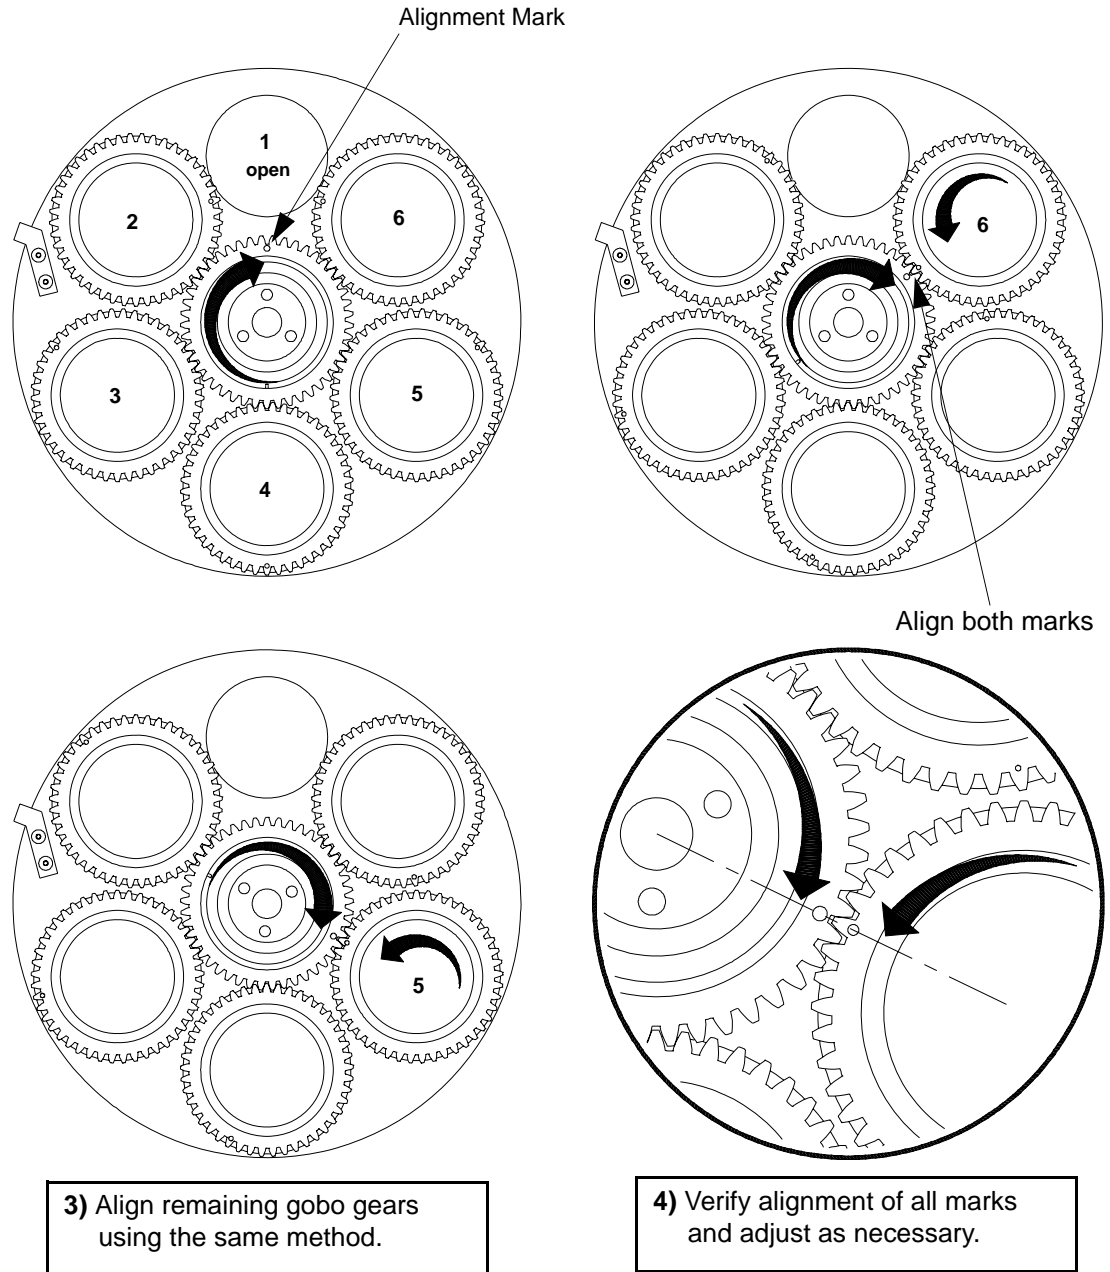

Figure 2-13: Aligning Gobo Wheel Gears
- Step 1. Place center (sun) gear at starting point so that alignment mark is directly facing Position 1 (open) as shown in **Figure 2-13**.